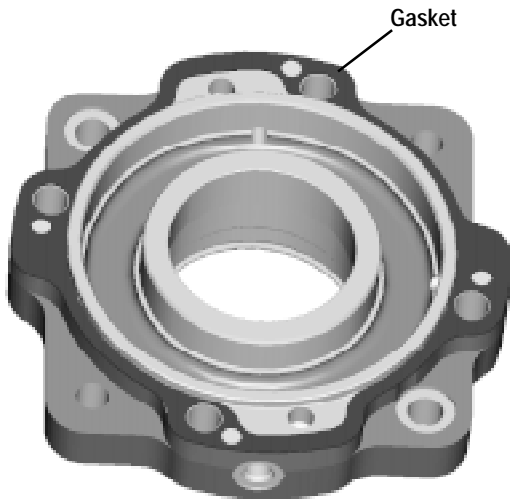

Figure 4.
- 11 Remove the four **bolts (14)** from the **housing-piston (3)**. Slowly release the clamp force. **Caution:** **housing-piston (3)** is under spring load.
- 12 Remove the **housing-piston (3)**.
- 13 Remove the **reaction plate (5)**, **stator plates (6)**, **lining assemblies (7)**, **dowel pins (22)**, and **springs (8)**.
- 14 Scrap off **gasket (13)** and **shim-A1 crush pins (28)**, see figure 4.